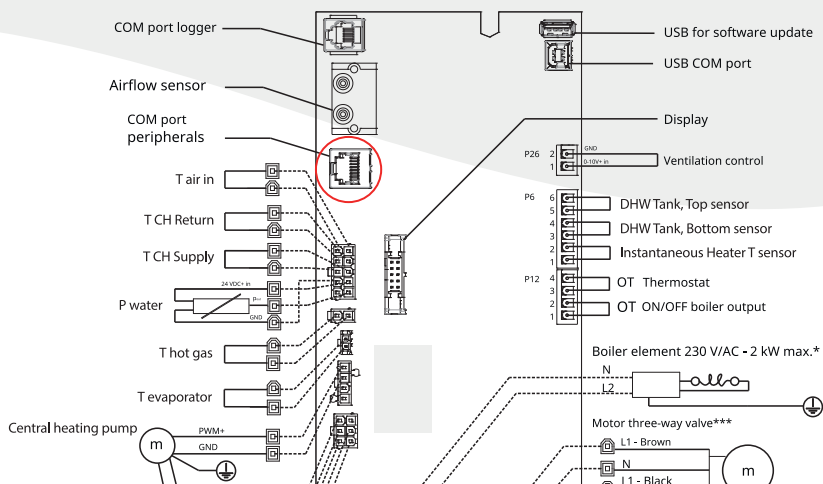

Figure 15 COM port Peripherals in the electrical diagram of the Modul-AIR.
4. Connect the cable to the COM port Peripherals (see figure 15).